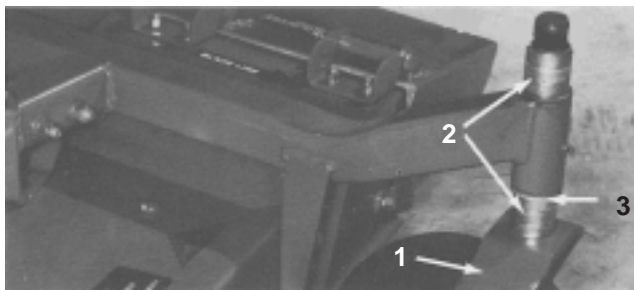

Figure 18
2. Remove the tensioning cap from the spindle shaft. Slide the spacers onto the castor spindle to get the desired height-of-cut (Fig. 18 and 19). Then slide the washer (Fig. 18 and 19) onto the spindle.
3. Push the castor spindle through the castor arm. Slide any remaining spacers onto the spindle (Fig. 18 and 19). Install the tensioning cap to secure the assembly.